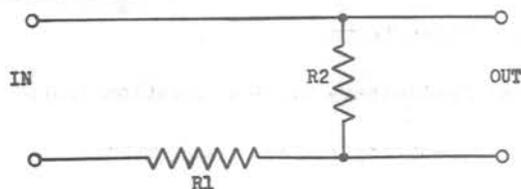

Fig. 1 - Suggested Output Pad Arrangement
2.09 Fig. 1 shows a suggested arrangement of the output pad referred to in Paragraph 2.07. R1 is a 360-ohm resistor and must dissipate approximately 11 watts of power with the amplifier supplying full power output of 12 watts. It may be made up with six 60-ohm type 19NY resistors in series, or any 360-ohm, 25-watt resistor. R2 is a 43-ohm, 2 or 5-watt resistor. The loss of this pad will be approximately 22 db, the actual value depending upon the accuracy of the resistors used.